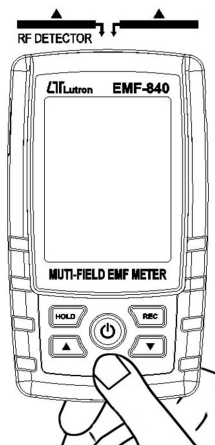

figure 3.
- * The meter sensing area, Point toward signal source, reference figure 3.